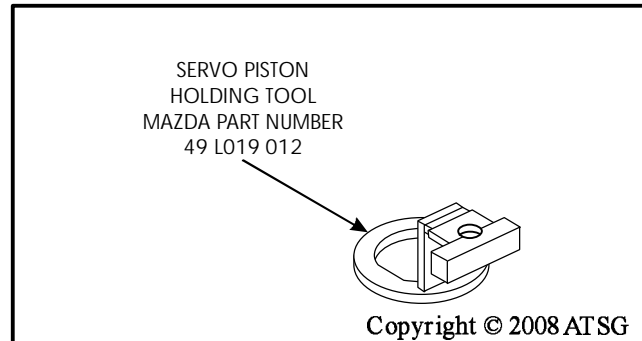

Figure 216
**Note:** This is a mandatory tool to enable you to torque band adjusting screw locking nut properly (See Figure 216).